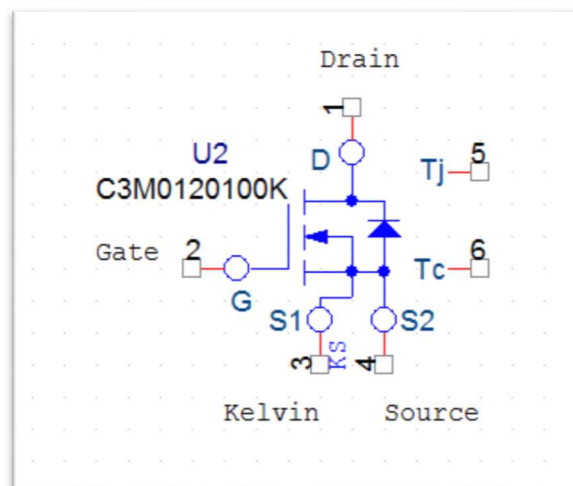

Figure 1. Device symbol (reference purpose only).
5. The device symbol will be like the one shown in figure 1. Pspice provides the option for changing the visibility of the labels associated with the terminals.